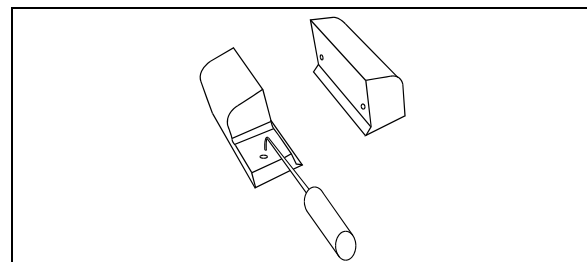

FIGURE 27: REMOVE THE UPPER ACETAL PLASTIC BLOCKS WITH A PICKING TOOL
4. Remove the 2 upper acetal plastic blocks. They have holes so they can be removed with a picking tool (FIGURE 27) from outside the vehicle. If the acetal plastic blocks are too hard to reach, slightly extend the slide-out, the movement of the slide-out should bring them out.
1. For both sides of the slide-out, remove the 2 upper acetal plastic blocks shown on FIGURE 27 (refer to paragraph 13).